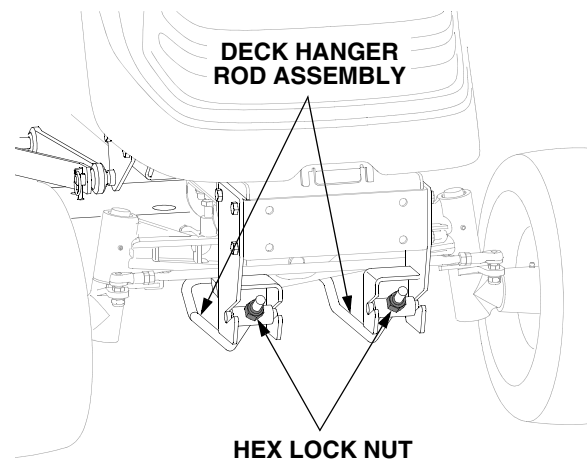

Figure 58
- If the front of the deck is too low, the deck hanger rod assembly must be shortened. From the front of the tractor, **evenly** turn the hex lock nuts clockwise to shorten the hanger rod assembly and raise the front of the deck. See Figure 58.
- If the front of the deck is too high, the deck hanger rod assembly must be lengthened. From the front of the tractor, **evenly** turn the hex lock nuts counterclockwise to lengthen the hanger rod assembly and lower the front of the deck. See Figure 58.